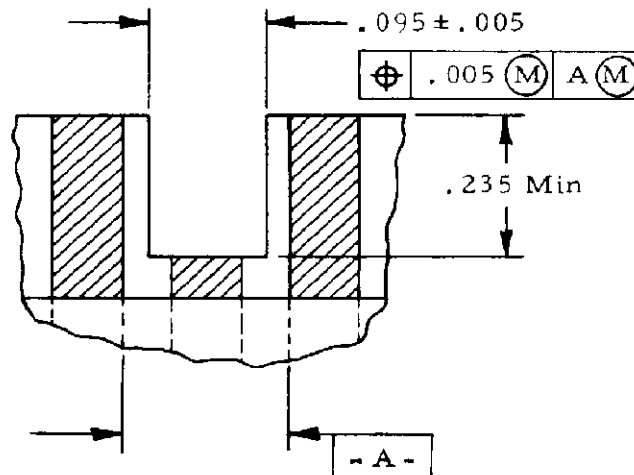

Figure 4
- (3) Printed conductive ink cable or circuitry not containing a coverlay requires no stripping.
- (4) Cable or circuitry shall be notched as indicated in Figure 4 when polarizing plugs are to be inserted in connector cavities.